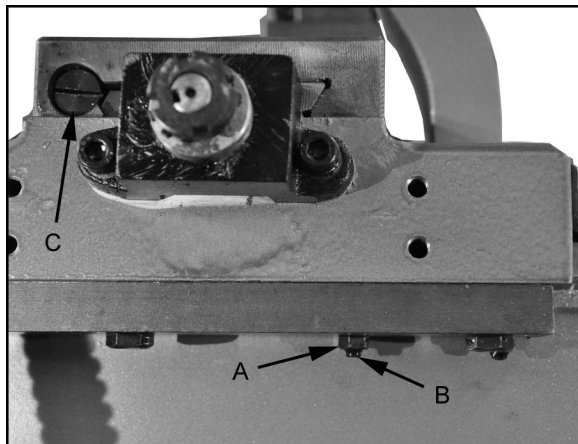

Figure 11-1
1. Loosen four hex nuts (A, Figure 11-1) found on the bottom rear of cross slide.
2. Turn each of four set screws (B, Figure 11-1) equally with a hex wrench until a slight resistance is felt. Do not overtighten.